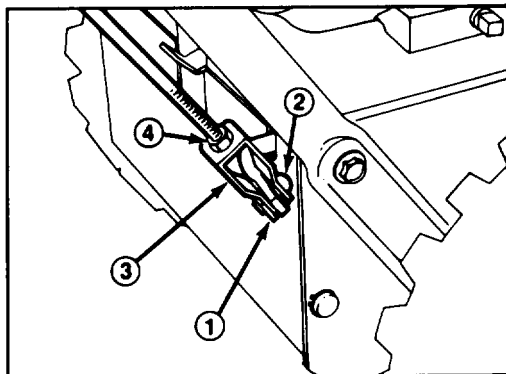

Figure 22
2. Remove cotter pin and clevis pin securing clevis to lower control rod (Fig. 22).